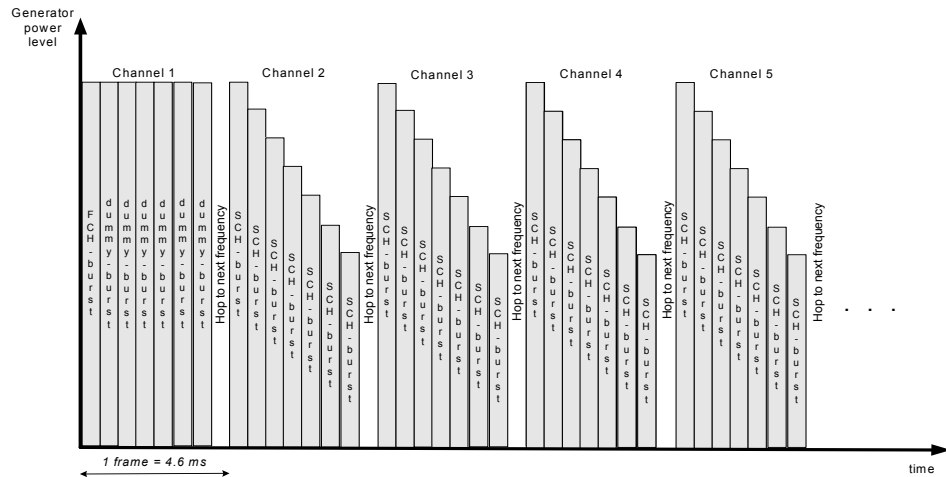

Fig. 8-5 Alignment of measured slots in the RX Calibration test signal
Fast mobile receiver adjustments are performed by means of an *RX Calibration* test signal that the R&S CMU transmits with a periodicity of up to 100 TDMA frames. The frequency of the test signal may change after each frame. Moreover, the signal levels in slots 0 to 6 of each frame can be configured independently. This means that, over a measurement time of 100 frame periods (100 x 4.6 ms = 460 ms), the mobile can receive up to 700 bursts with a different level/frequency combination. The gain in speed is due to the dense alignment of slots in the test signal with different frequencies and powers; see Fig. 8-5 on p. 8.8.
**Default Settings** The *Default Settings* switches assign default values to all *RX Calibration* parameters. The default configuration corresponds to Fig. 8-5 on p. 8.8; all default values are quoted in the command description in section *RX Calibration (RFGenerator:RXCal)* on p. 8.15 ff.